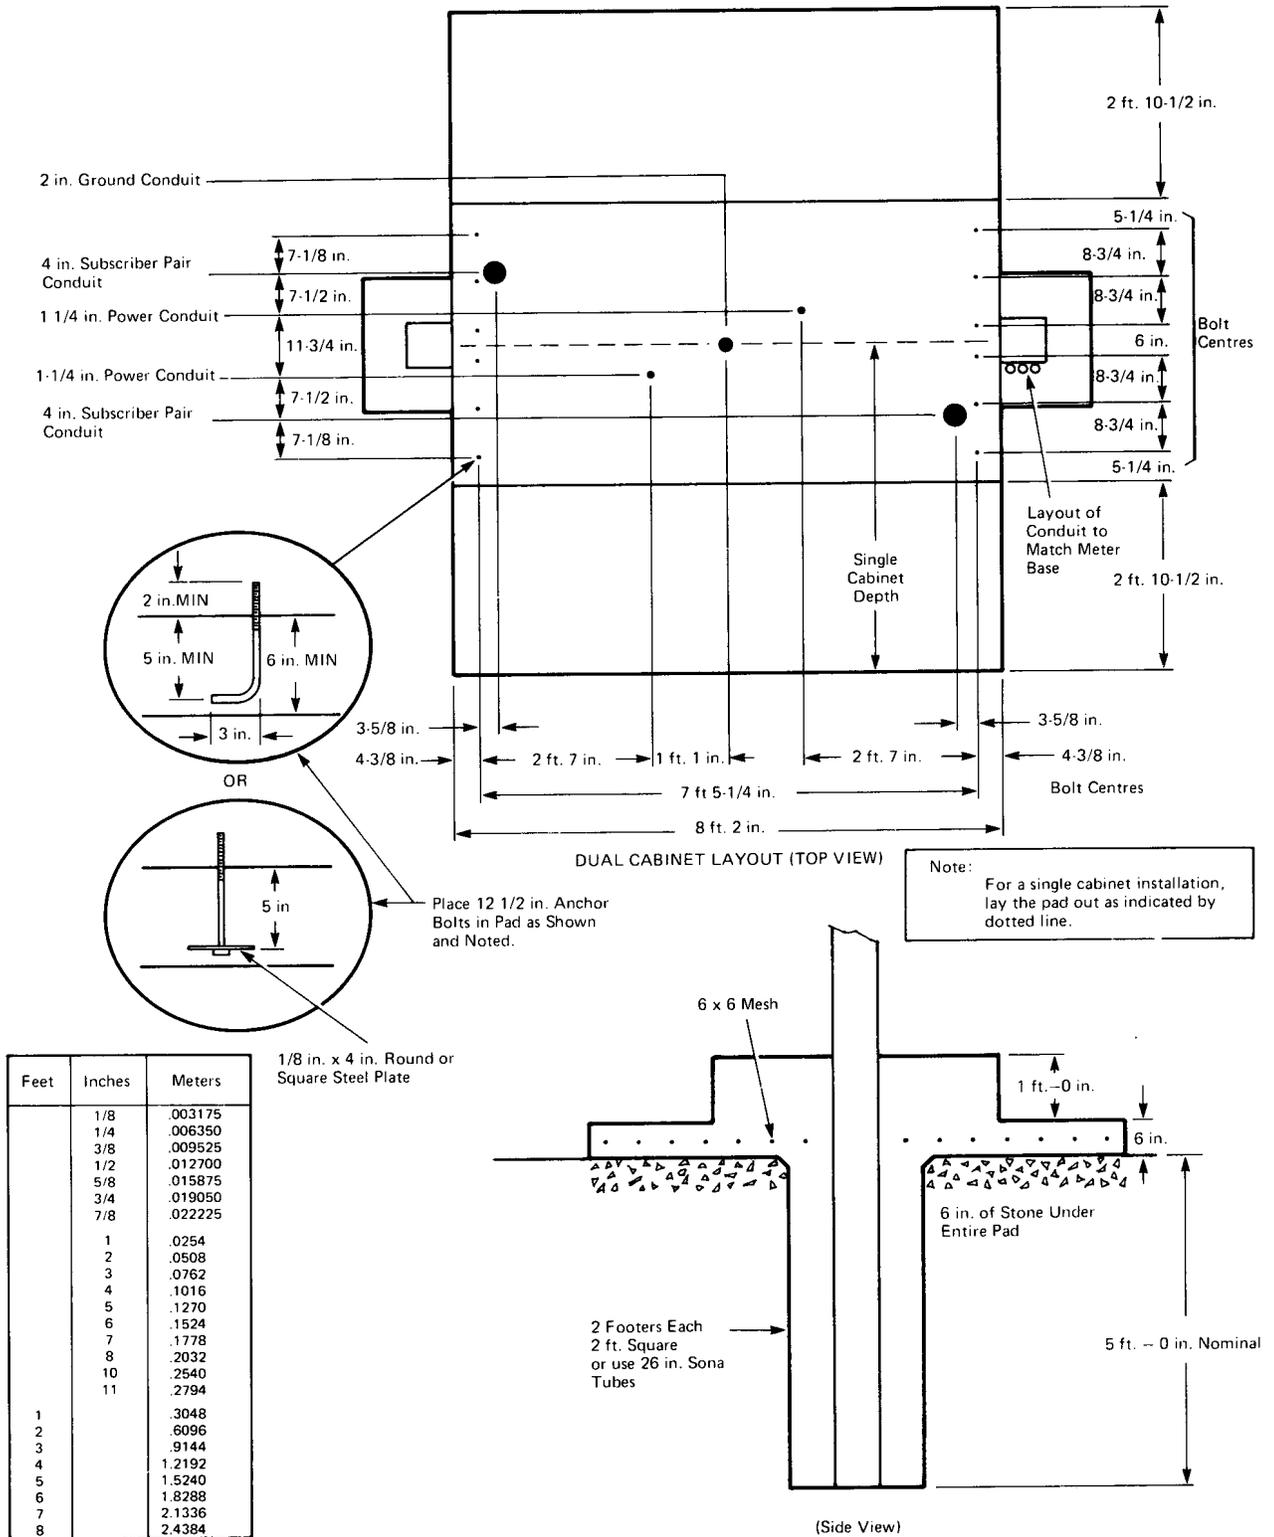
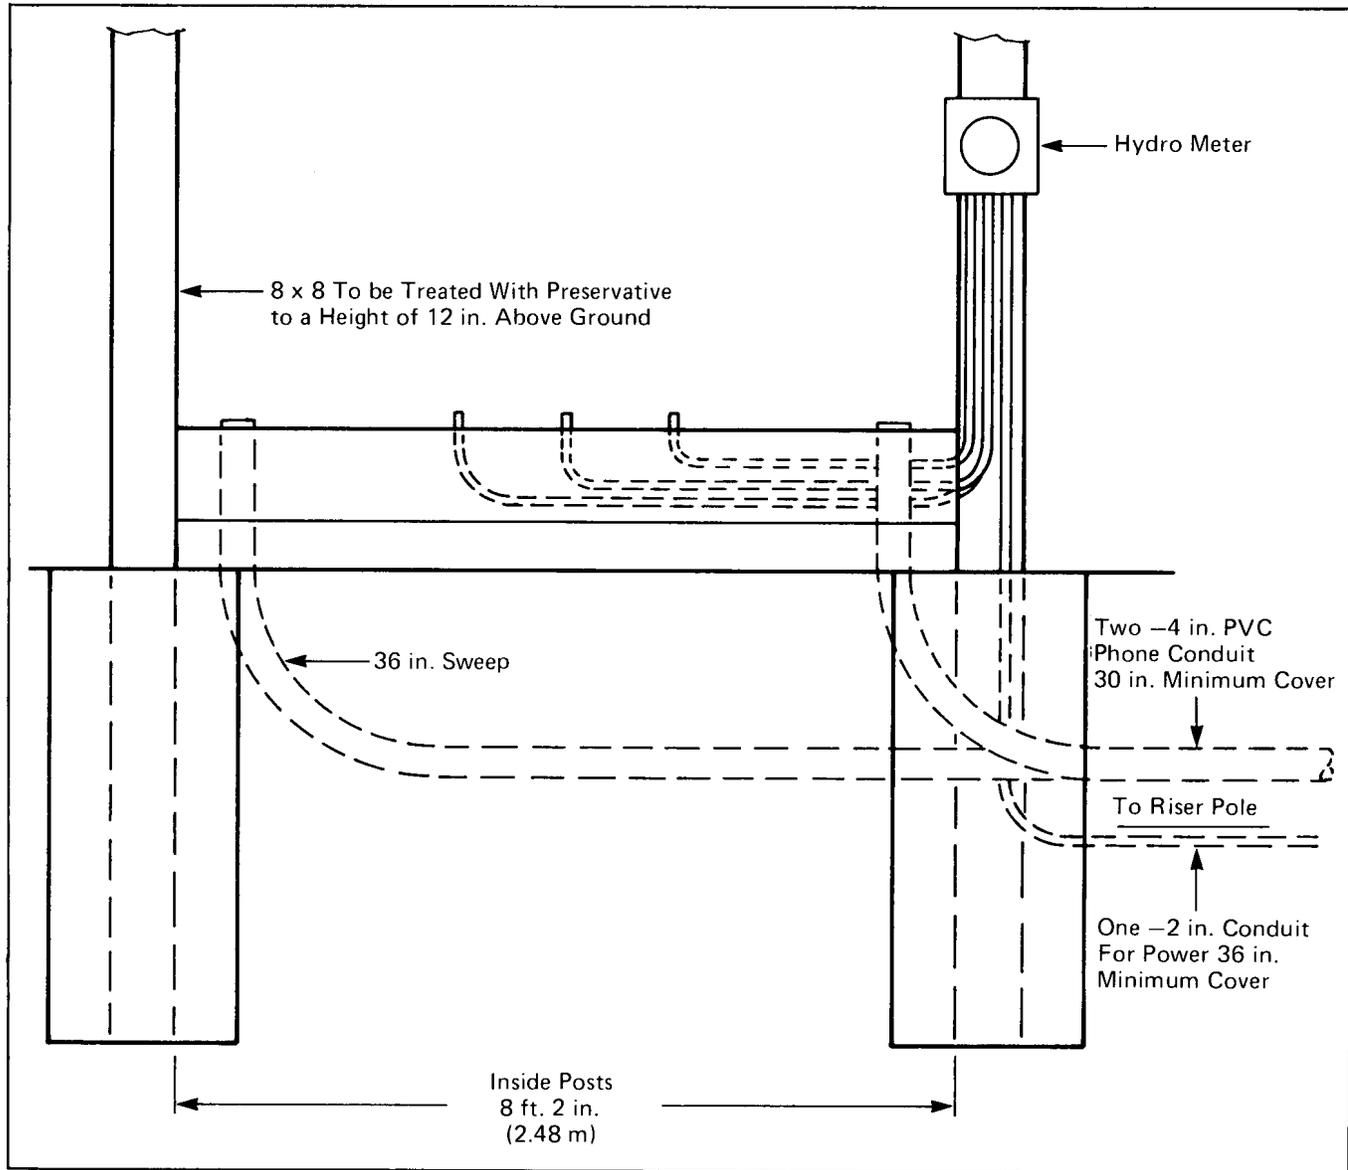

Fig. 16 — Concrete Pad Construction
Fig. 17 - Conduit Locations
3.01 The use of a concrete pad is the recommended method of mounting the RCT cabinet. A typical concrete pad is shown in Fig. 16.
4.01 Pour a concrete pad for mounting the cabinet. Pad construction and mounting stud centers are shown in Fig. 16. The pad size and construction may be modified to meet local requirements. Locations of conduits for power, and subscriber and digital line cables are shown in Fig. 17.